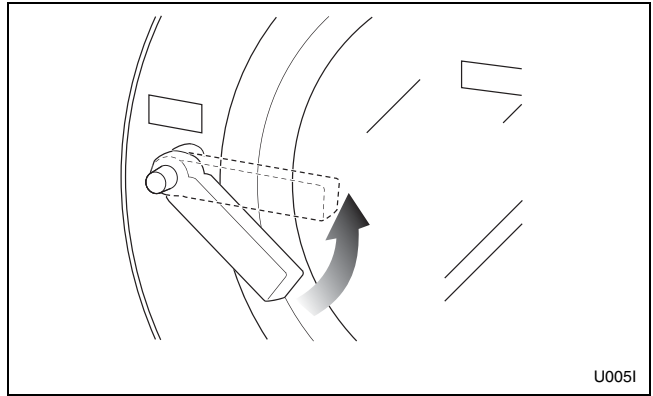

Figure 7
4. Close door and turn handle counterclockwise until button pops out. Refer to *Figure 7*.